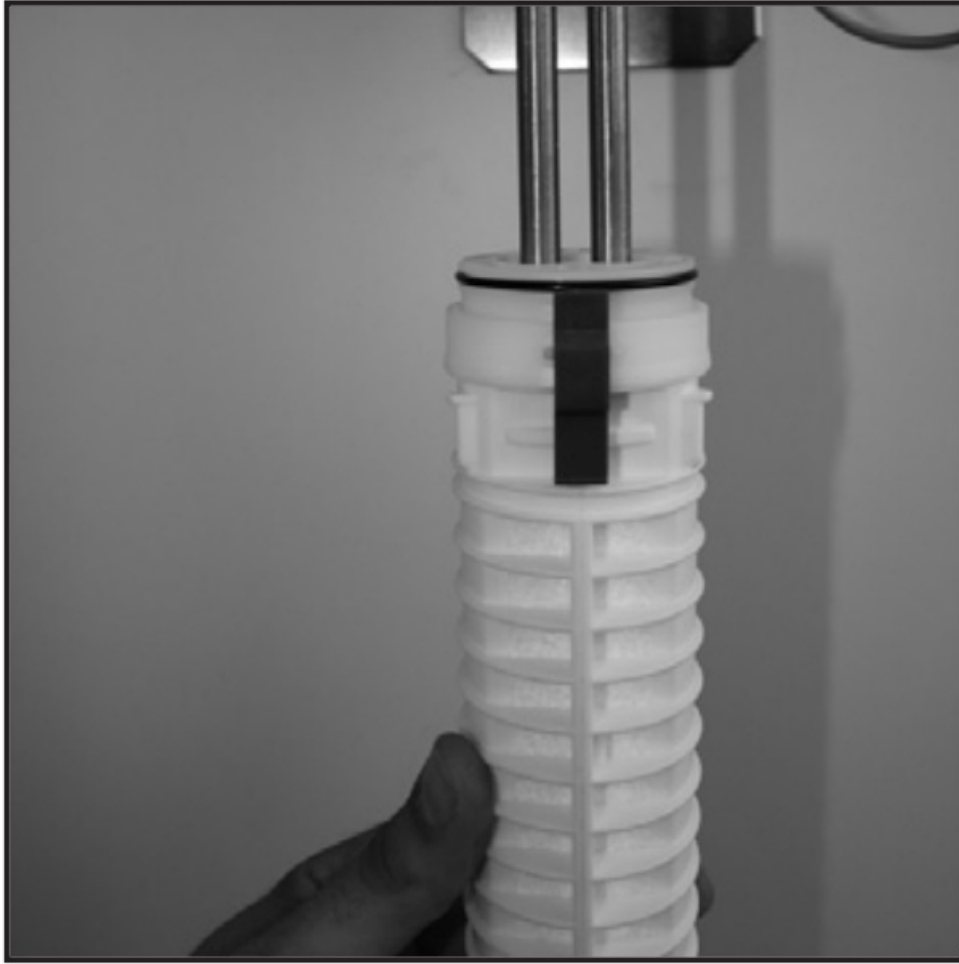

Fig. 16
- **V.** Now detach the limescale protection unit (see Fig. 16). You can, without any hesitation, put the limescale protection unit in the domestic waste or send it to be recycled.